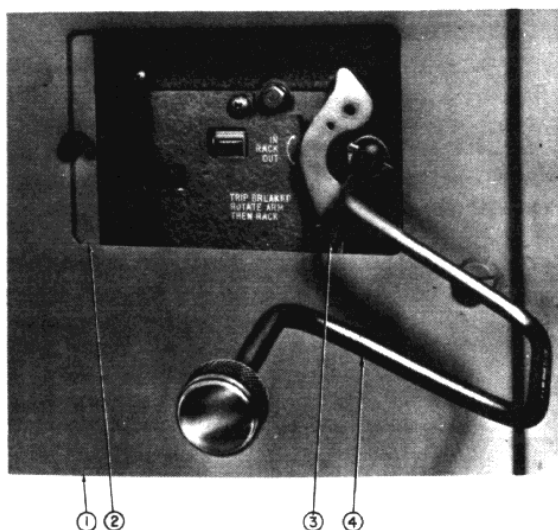

Fig. 5 — Method of Racking Circuit Breaker
2. Engage racking crank (4, Figure 5) and push racking unlocking lever (3) to left, then rotate racking crank counterclockwise only until resistance to motion is felt. (DO NOT FORCE.) (If closing springs were left in charged condition, they will automatically discharge.)
5. To rack circuit breaker to "TEST" position, push racking unlocking lever (3, Figure 5) to left, rotate racking crank approximately 1/4 turn clockwise, then release unlocking lever. Continue cranking until racking mechanism automatically stops at "TEST" position.
FOR SAFETY: When racking circuit breaker to "CONNECTED" position, close compartment door (1, Figure 5) and insert racking crank (4, Figure 5) through sliding panel (2, Figure 5).
Section 4. CIRCUIT BREAKER REMOVAL (See Figure 5)